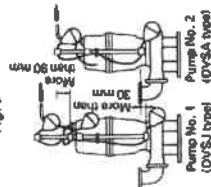

Fig. 4
- (9) Models DVSJ plus DVSA will undergo automatic alternate operation when they are paired. Position the floats for these automatic alternate operation pumps as shown in Fig. 4. The pumps may not operate correctly if the floats are in the wrong location.